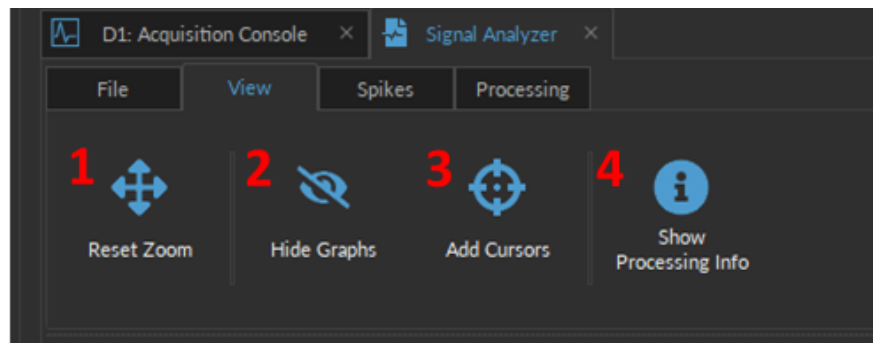
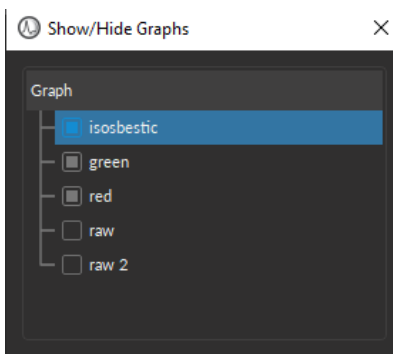
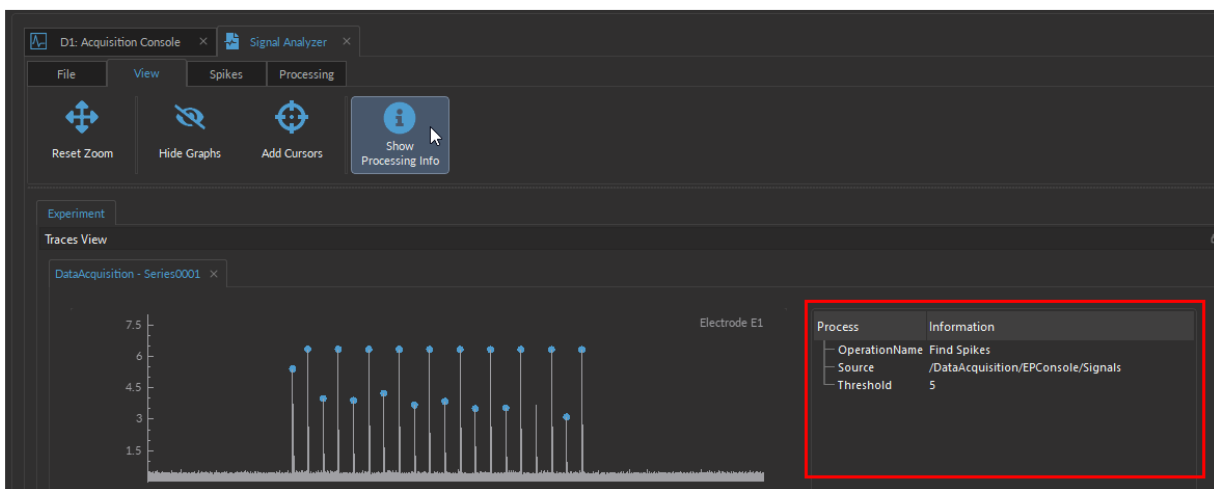

Figure 10.5: View Tab
Figure 10.6: Show/hide Graphs Window
Figure 10.9: Processing Info Box
The **View** tab (Fig. 10.5) is used to adjust the view in the **Graphs box**. The following details the specific features of each button, as per Fig. 10.5:
1. The **Reset zoom** button (Fig. 10.5, 1) resets the axis so that the entire recording is visible.
2. The **Hide graph** button (Fig. 10.5, 2) opens the **Show/hide graphs** window (Fig. 10.6). Any checked data sets will be displayed in the **Graph box**.
3. The **Add cursors** button (Fig. 10.5, 3), when selected, allows users to add 1-2 markers on the graph and displays the coordinates of the chosen point (Fig. 10.8). A left click will activate a blue cursor, while a right click will activate an orange cursor. If both cursors are used, the **Time Difference** between the two cursors will be displayed at the top of the graph (Fig. 10.8, red box). To remove the cursors, click the **Remove cursors** button (Fig. 10.7) (previously the **Add cursors** button).
4. The **Show Processing Info** button (Fig. 10.5, 4) opens a box on the right side of **Traces View** (Fig. 10.9). This box records all the data manipulation and parameters that a user has performed on the raw data. This includes the processing algorithms used (Operation Name), the device that collected the data (Source), and the parameter(s) specified for each algorithm.